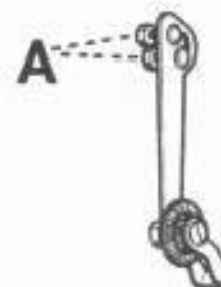

Fig. 25-1
- 1) Slacken the 2 nuts "A" Fig. 25-1 on the chain tensioner, press down on the tensioner arm setting the tension as described on page 21. Tighten the tensioner nuts.
- 6) Set the pedal chain tension and tighten the tensioner nuts "A" Fig. 25-1 and lock the quick release lever.